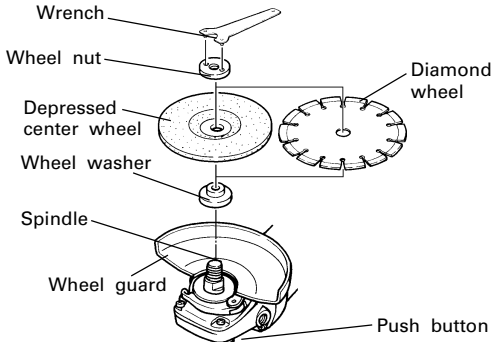

Fig. 4
Confirm that the push button is disengaged by pushing push button two or three times before switching the power tool on (See Fig. 4)
ASSEMBLING AND DISASSEMBLING THE DEPRESSED CENTER WHEEL (Fig. 4)
1. Assembling (Fig. 4)
Tighten the wheel nut by using the supplied wrench as shown in **Fig. 4**.